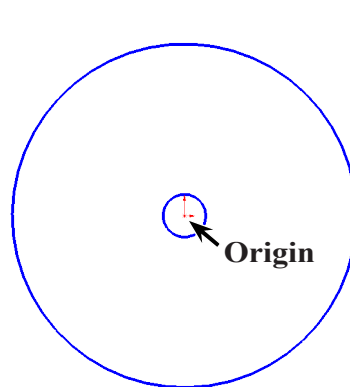
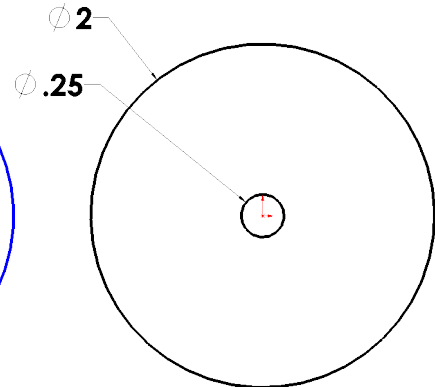

Fig. 2
Fig. 3
Step 4. Sketch **two circles** starting at the Origin , **Fig. 2**.
Step 5. Click **Smart Dimension**  (S) on the Sketch toolbar.
Step 6. Dimension the circles **2** and **.25 dia**, **Fig. 3**.